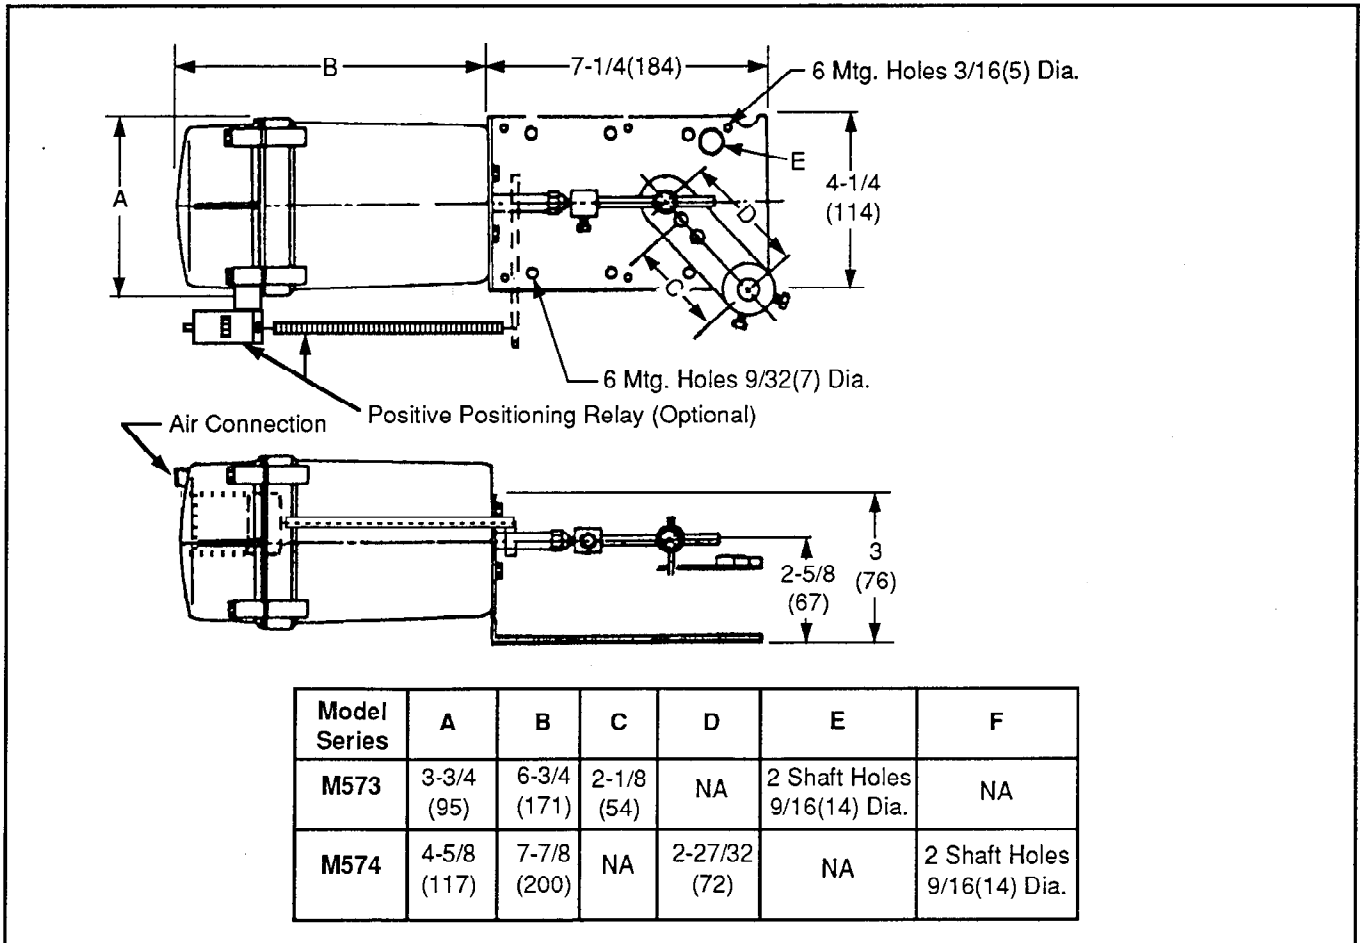

Figure 3. M573 & M574 Right Angle Mounting Dimensions For External Applications
See Figures 3 and 4
Next, the "normal" position of the damper blades (open or closed when signal air is removed and the actuator piston retracts) and direction of shaft rotation as the piston is extended must be determined to establish the mounting position of the actuator bracket. The standard right angle bracket has two (2) locator holes (dimension E in Figure 3)
for 3"(76mm) stroke actuators and two (2) locator notches (dimension F in Figure 3) for 4"(102mm) stroke actuators; the choice of a locator being based on whether clockwise or counterclockwise rotation is required as the piston shaft is extended by increasing signal pressure.